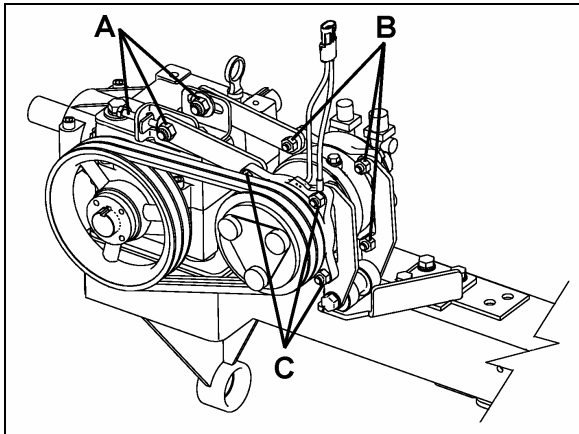

FIGURE 39: COMPRESSOR REMOVAL OR INSTALLATION 22285
- * Slacken bolts A (Refer to figure 39).
- * Remove bolts B & C (Refer to figure 39).